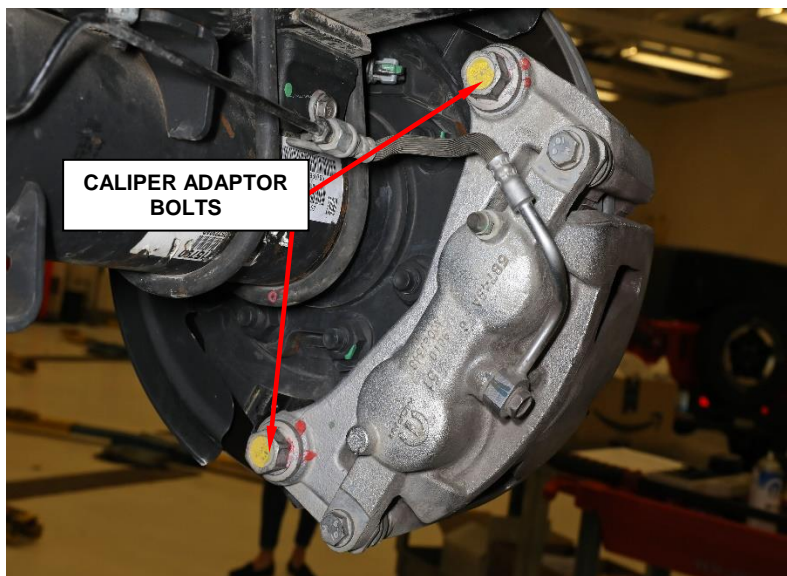

Figure 8 – Caliper Assembly
3. Remove the brake caliper adaptor bolts and brake caliper as an assembly and support the caliper (Figure 8).
- 35. Position the caliper adapter and caliper to the mounting bracket (Figure 8).
2019 - 2021 D2, DD 353N·m (260ft. lbs.) (Figure 8).